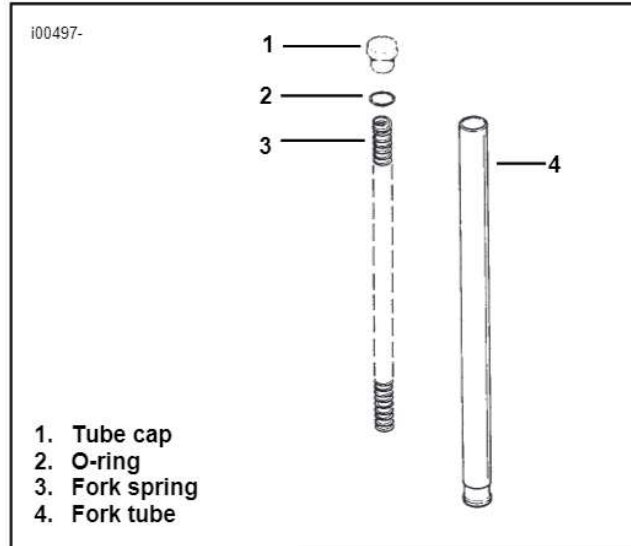

Figure 1. Fork Spring Assembly
1. See Figure 1. Elevate and support vehicle so front wheel clears floor.